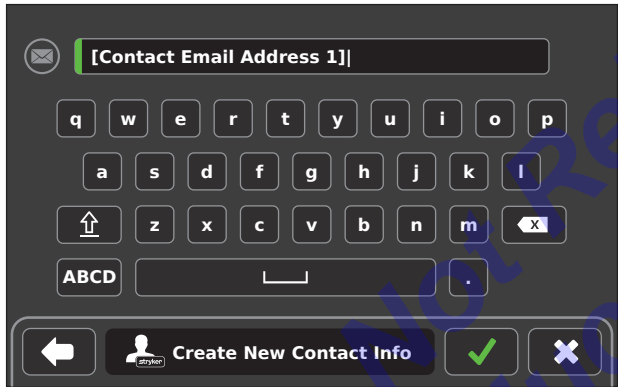

Figure 33 – Enter CONTACT INFO E-mail Address
6. Using the keyboard, enter the e-mail address and touch the CONFIRM button to save and exit the screen. Touch the CANCEL button to cancel the request (Figure 33).